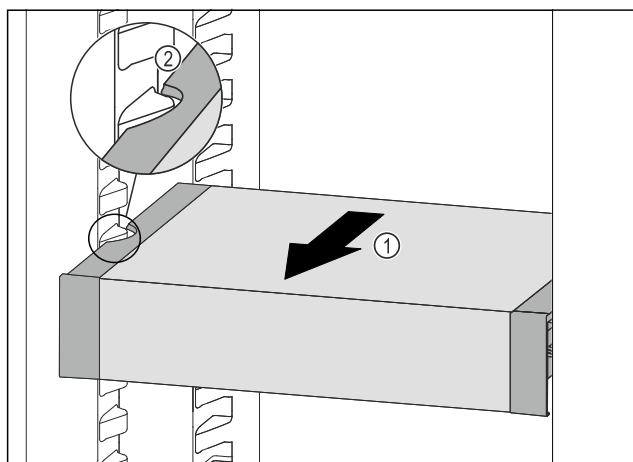

Fig. 115
- Pull VarioSafe forwards Fig. 115 (1) until the recesses in the side of the VarioSafe are at the level of the support rib in the fridge section. Fig. 115 (2)